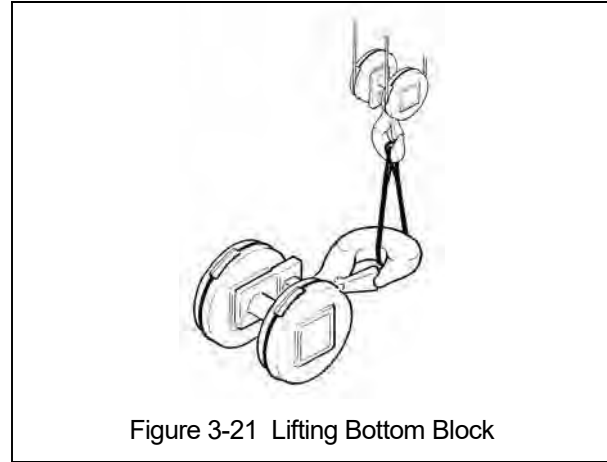

Figure 3-21 Lifting Bottom Block
- 3) Remove the Bottom Block from the pallet/packing and place it on the ground. Use a hoist or other suitable lifting means to pick up the Bottom Block if it is heavier than 50 pounds (weight is written on the container if it exceeds 50 pounds). Always lift/hold the Bottom Block from the Hook regardless if it is lifted using a hoist or handled manually (see Figure 3-21).